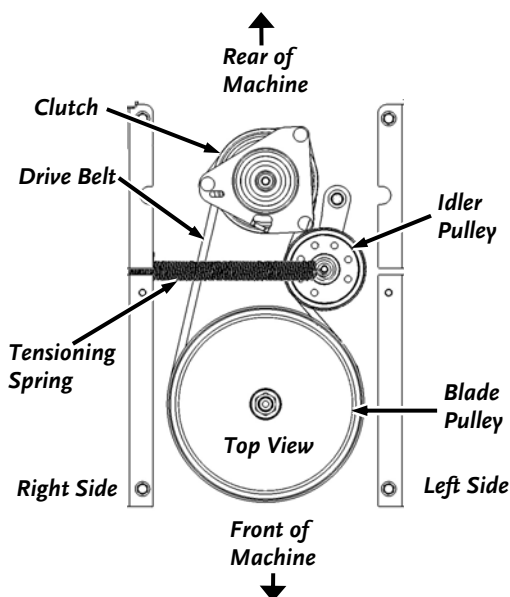

Figure 36
7. From the front of the machine where you removed the Gas Tank Plate, rotate the Blade Pulley Counter Clockwise as you roll the Drive Belt up and over the Blade Pulley (**Figure 36**).
1. From the back of the machine, insert the new Drive Belt under the Clutch (**Figure 36**).